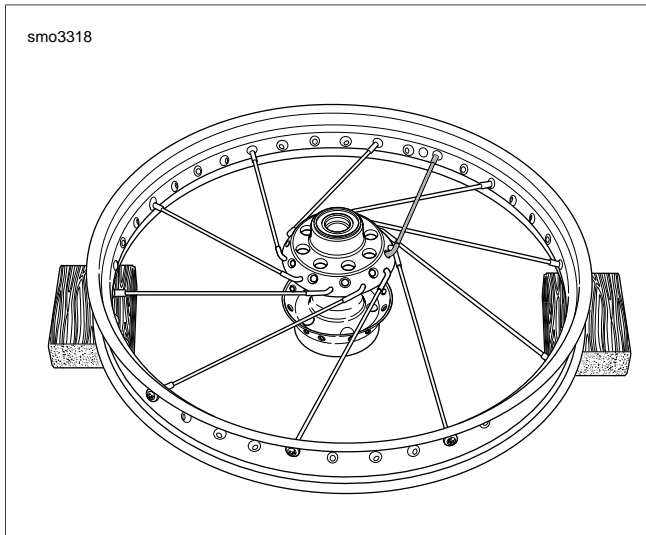

Figure 2-47. Spokes into Hub Upper Row
- See Figure 2-47. Place the first **upper** row spoke into the hub as shown below. Angle the spoke counterclockwise crossing four lower row spokes. The spoke must enter the hole to the right of the valve stem hole.